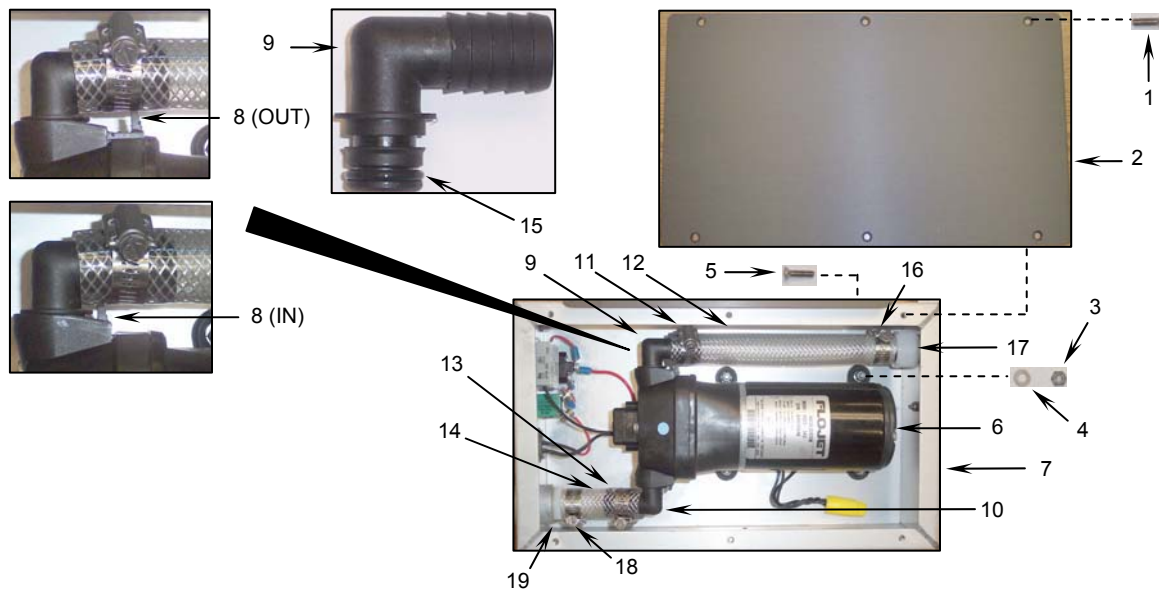

Figure 3. Removing the Sink Fill Pump Assembly Internal Tubing.
- a. Remove the six flat head machine screws (**Figure 3, Item 1**) from the fill pump cover (**Figure 3, Item 2**).
- b. Remove the cover (**Figure 3, Item 2**).
- a. Remove the four self-locking nuts (**Figure 3, Item 3**), four flat washers (**Figure 3, Item 4**), and four flat head machine screws (**Figure 3, Item 5**) that secure the pump (**Figure 3, Item 6**) to the sink fill pump assembly enclosure (**Figure 3, Item 7**).
- b. Slide out the pump suction elbow retaining tab (**Figure 3, Item 8**) and pull the suction elbow (**Figure 3, Item 9**) out of the pump. Remove the pump discharge elbow (**Figure 3, Item 10**) the same way.
- c. Loosen the hose clamp (**Figure 3, Item 11**) at the pump suction elbow (**Figure 3, Item 9**) and work the elbow off the suction tubing (**Figure 3, Item 12**).
- d. Loosen the hose clamp (**Figure 3, Item 13**) at the pump discharge elbow (**Figure 3, Item 10**) and work the elbow off the discharge tubing (**Figure 3, Item 14**).
- e. Inspect the elbows (**Figure 3, Item 9**) and (**Figure 3, Item 10**) and the O-rings (**Figure 3, Item 15**) on both elbows for damage or deterioration. Replace the elbow and O-ring if either is damaged or deteriorated (see WP 0024 00).
- f. Loosen the hose clamp (**Figure 3, Item 16**) at the inlet of the suction tubing (**Figure 3, Item 12**).
- g. Work the suction tubing (**Figure 3, Item 12**) off the inlet adapter (**Figure 3, Item 17**).
- h. Loosen the hose clamp (**Figure 3, Item 18**) at the outlet of the discharge tubing (**Figure 3, Item 14**).
- i. Work the discharge tubing (**Figure 3, Item 14**) off the outlet adapter (**Figure 3, Item 19**).